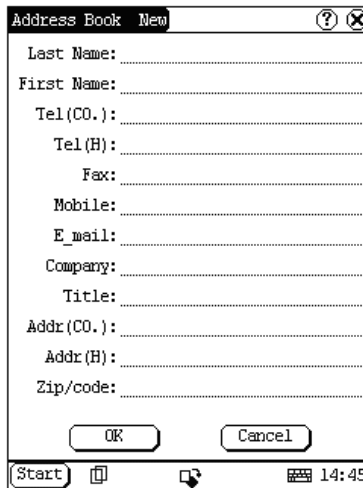

Fig 4-16
- 1) In the Address Book interface, click [New] button to open the Address New interface. (See Fig 4-16)